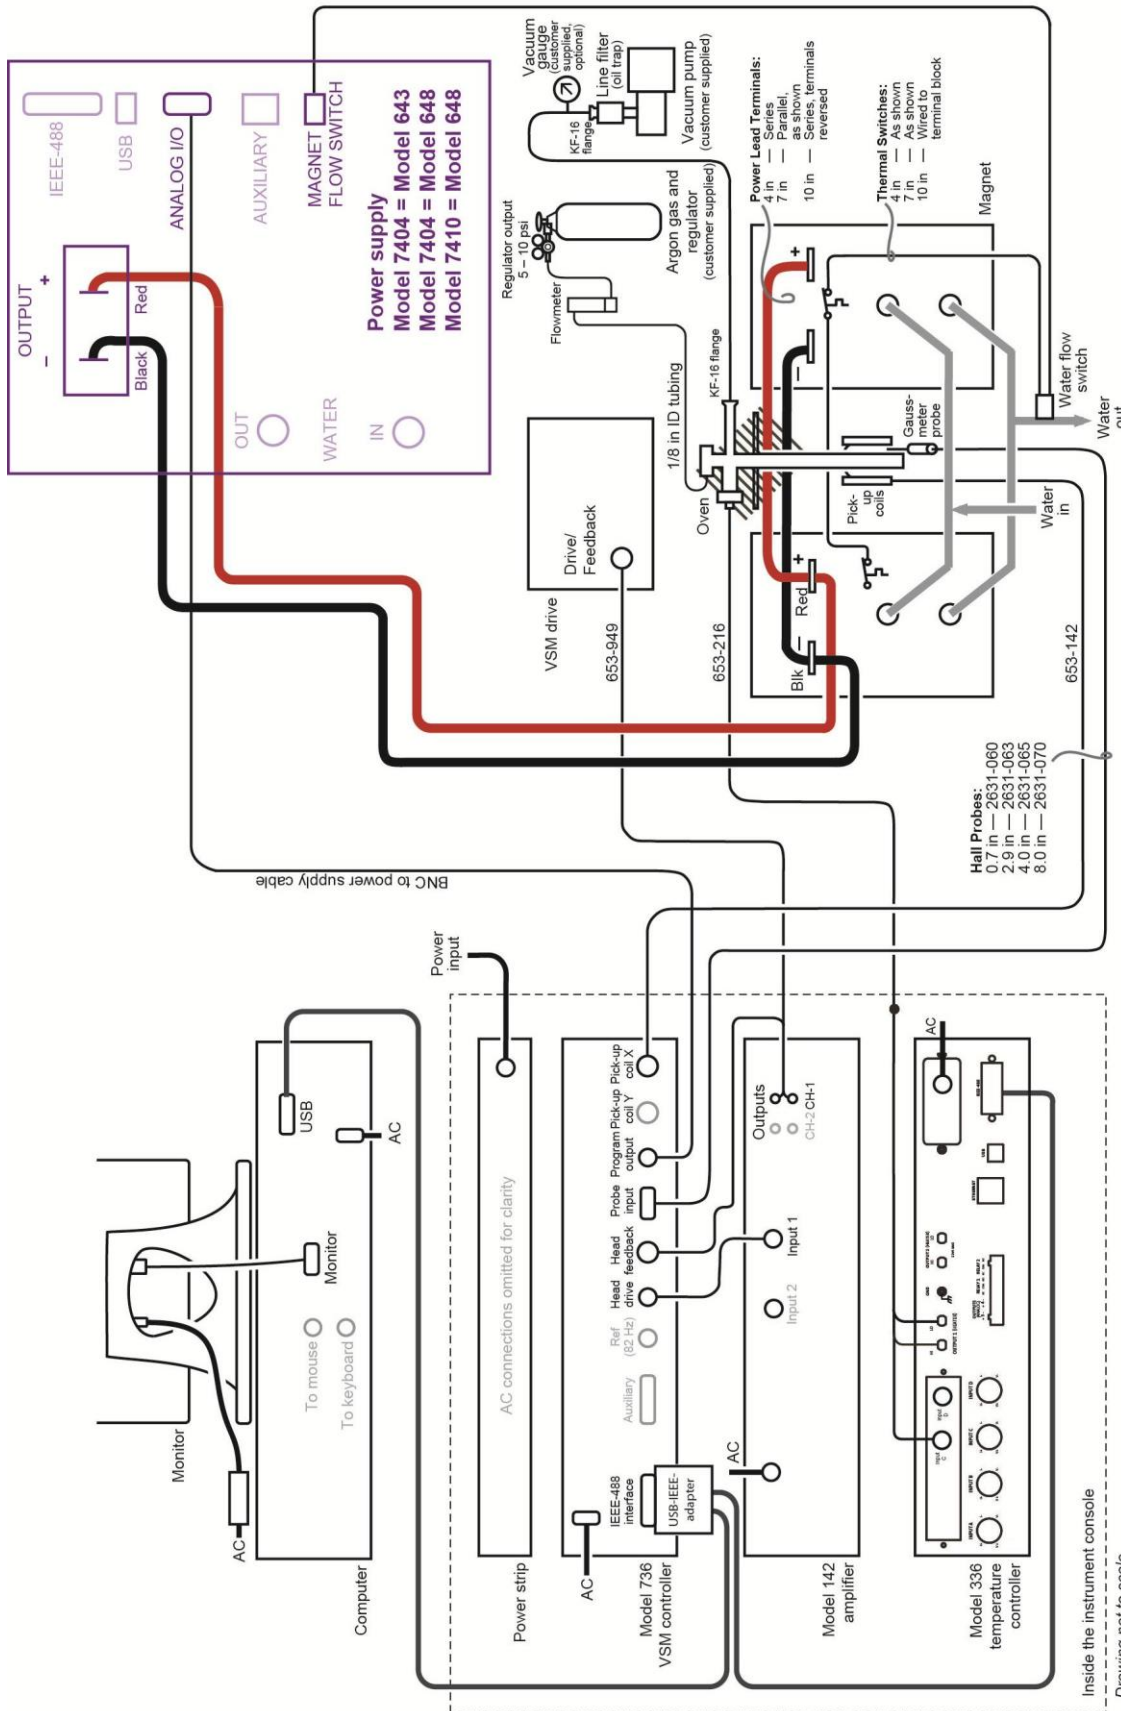

Figure 3-16. Typical 7400 Series VSM System with Optional 74034 Oven Wiring
7. Make Connections (see Figure 3-16)